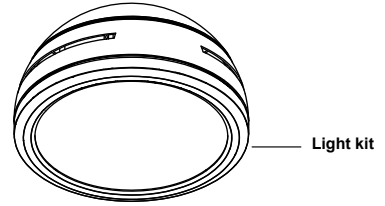

Fig.5
- Step 1 Turn the light kit clockwise to loosen the light kit.(Fig. 5)